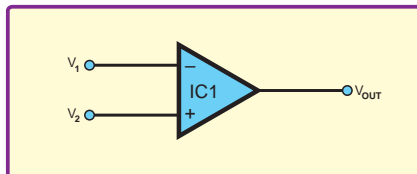

Fig.1. The op amp schematic symbol does not tell you anything about its characteristics
*When it comes to op amps I am less experienced and have difficulties comparing one to another if I need to substitute. From my view they all look alike – a triangle (see Fig.1) – and then I have to look into several datasheets to find a replacement.*